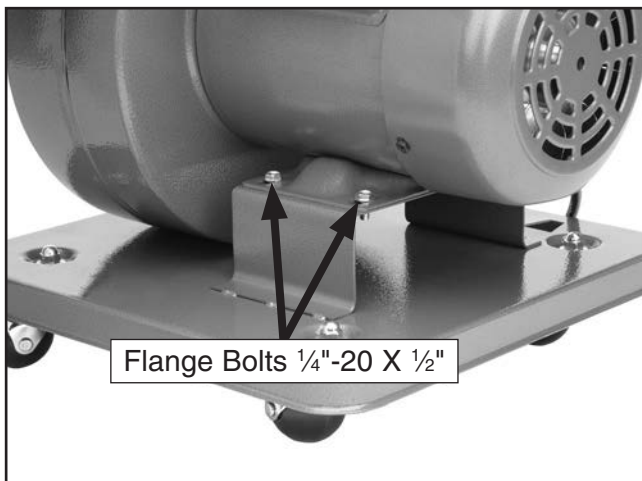

Figure 9. Mounting the collector body assembly to the base.
2. Position the collector body and fan/motor assembly on the base, then secure it with the flange bolts, as shown in **Figure 9**.